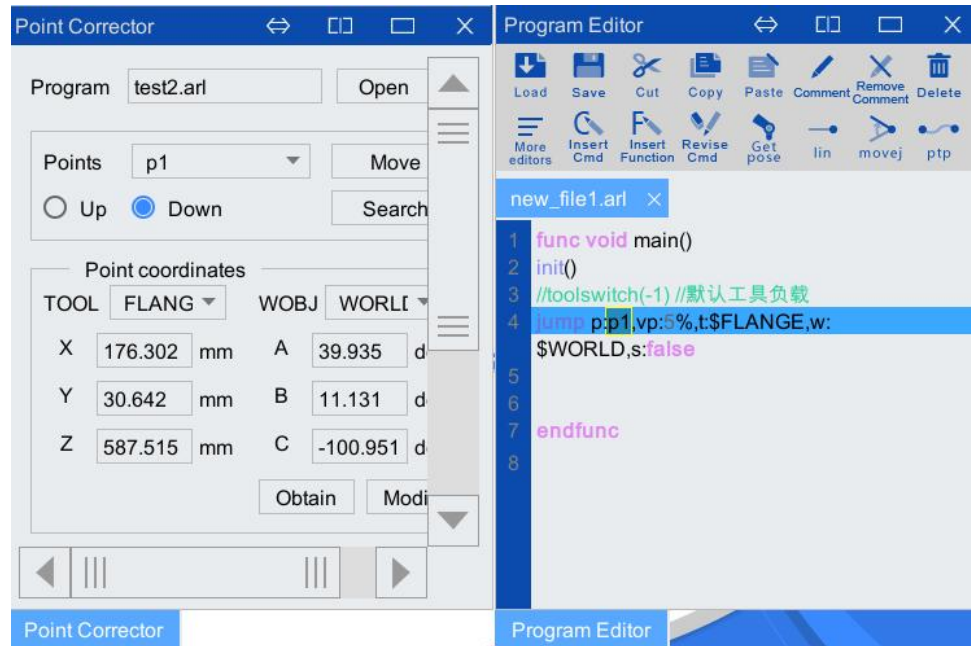

Figure 5-95 "Point List" Related button introduction
- Step3. Click the drop-down box of "Point List" in Figure 5-95 to display all point data in the program. The <Up>, <Down> buttons and the <Search in Program> button are used together, meaning to search the selected point in the "points" from the current position in the program "up" or "down".